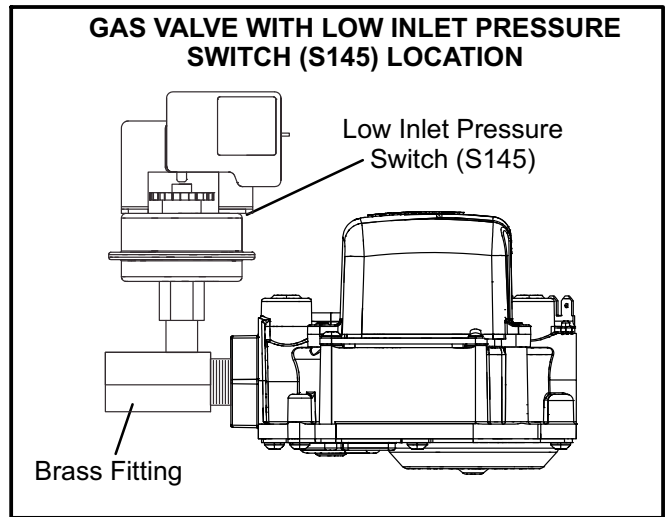

FIGURE 2
- 8 - Thread provided brass fitting to gas valve inlet until hand tight. Using properly sized wrench, tighten fitting 2 to 3 full turns being careful to position the side port to allow clearance for the pressure switch and harness. See figure 2.
NOTE - Some installations may require the pressure switch and fitting assembly to be positioned differently than shown in figure 2.
When testing supply gas pressure, use the 1/8" N.P.T. supply line tap located on the gas valve to facilitate test gauge connection. See figure 2. Check gas line pressure with unit firing at maximum rate. Low pressure may result in erratic operation or underfire. High pressure can result in permanent damage to gas valve or overfire.